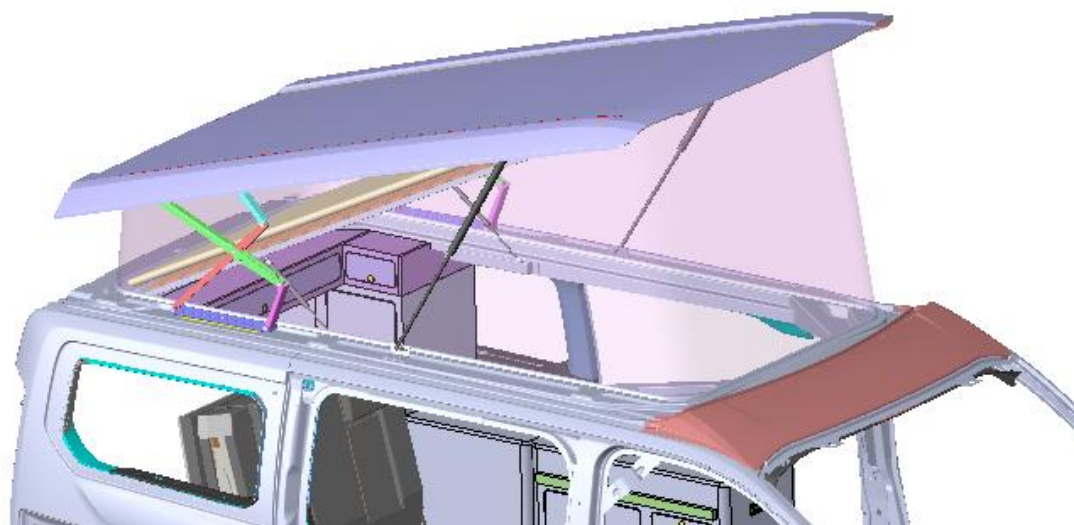

Fig. 4
- Roof in open position. ( Fig. 4)